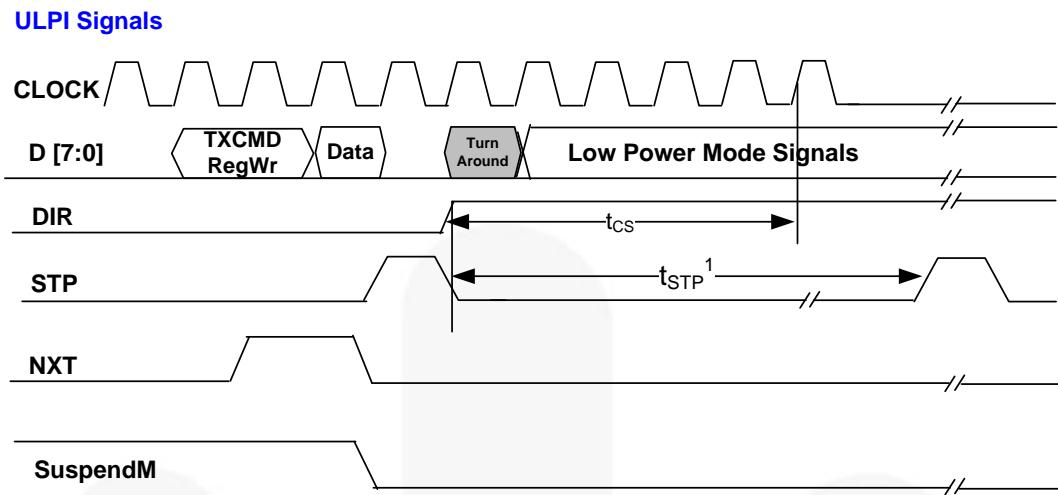

Figure 6. Entering Low-Power Mode
The link sets SuspendM=0b (in Function Control Register) to place the FUSB2805 into low-power mode. The CLOCK may be stopped a minimum of five (5) cycles after the FUSB2805 accepts the register write data as described in Figure 6. When entering low-power mode, the FUSB2805 asserts DIR